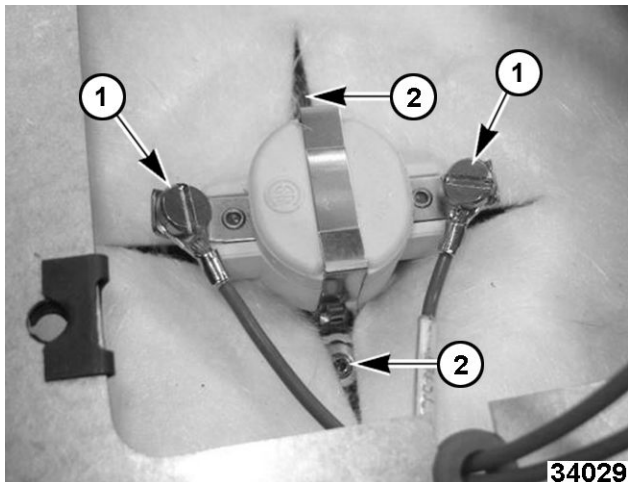

Fig. 53
4. Note and disconnect high limit wiring (1, Fig. 53).
5. Carefully move insulation (2, Fig. 53) to access high limit mounting screws.